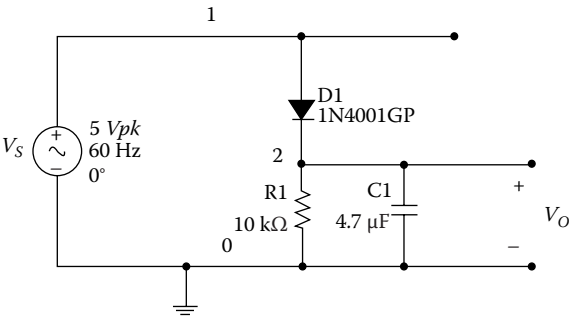

FIGURE P6.6
(3) If the frequency of the source is increased to 100 Hz, why is the switching on and off of the LED not visible to the eye?
Problem P6.6 Figure P6.6 shows a peak detector. (1) Display the input and output voltages. (2) Measure the ripple voltage for load resistors of source frequencies of 60, 600, and 6000 Hz. (3) Calculate the ripple voltages for source frequencies of 60, 600, and 6000 Hz and compare the calculated values with the measured ones.